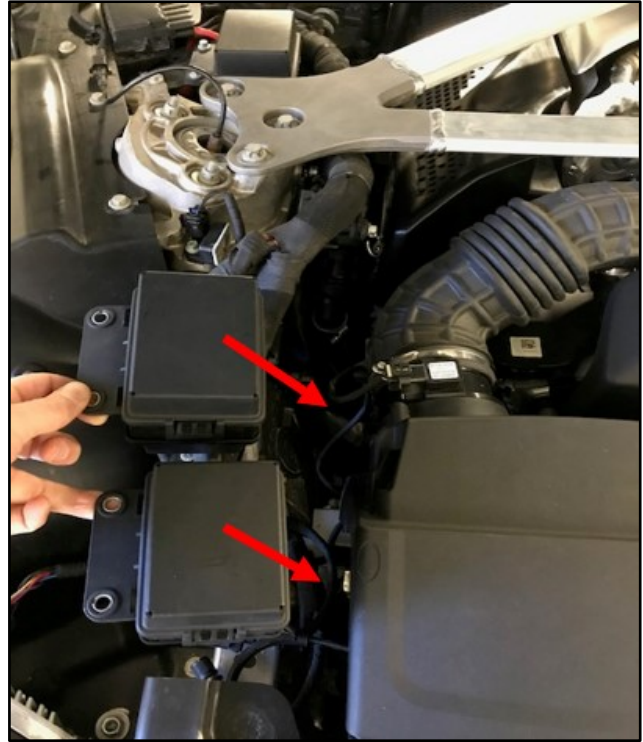

Figure 11
13. Move the fuse boxes back into the correct positions (refer to Figure 11).